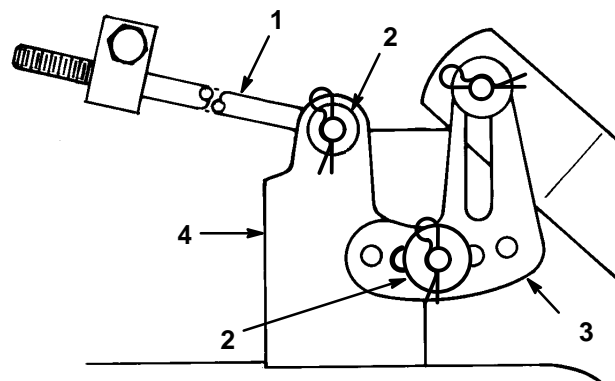

Figure 42
7. Slide the end of the long rod through the hole in the mower mount (Fig. 42). Install the washer and hair pin cotter to secure the rod in place. Repeat this step on the opposite side of the mower.
8. Mount the slotted mower leveling bracket onto the pin on the height-of-cut arm (Fig. 42). Install the washer and hair pin cotter to secure the mower. Repeat this step on the opposite side of the mower.